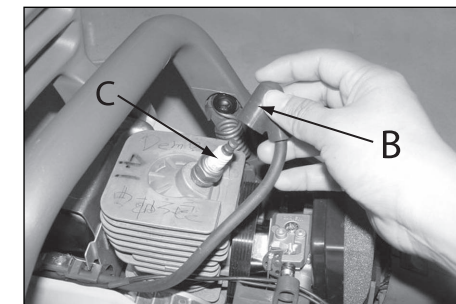

Fig. 18B
3. Disconnect the wire connector (B) from the spark plug (C) by pulling and twisting at the same time (Fig. 18B).